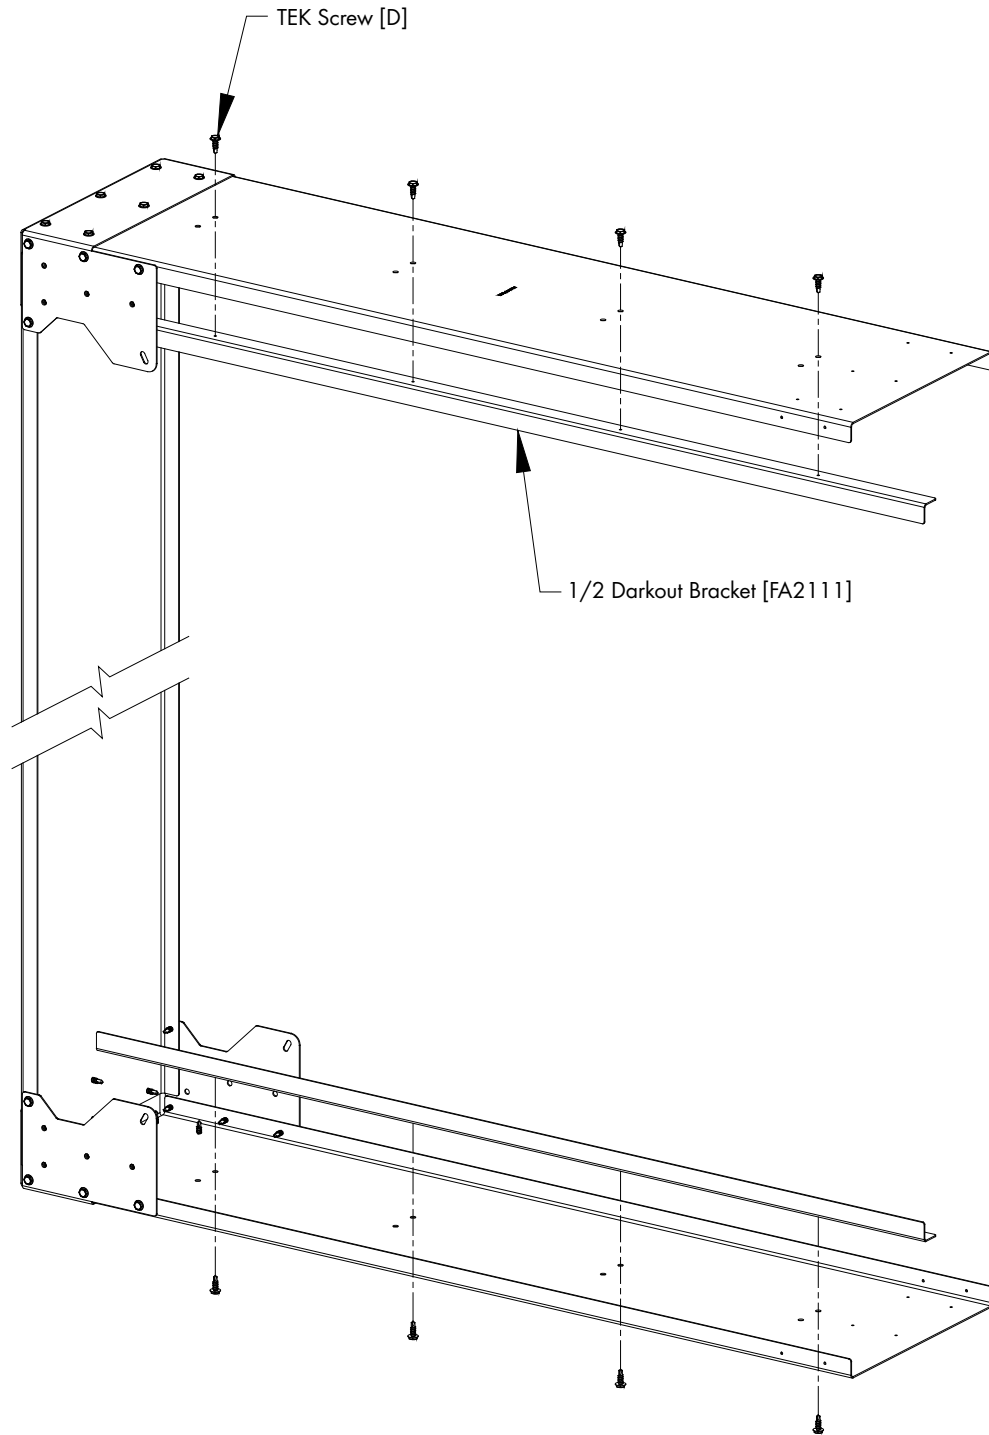

Figure 8
If you will be installing Full Depth Light Trap into the door then proceed to Step 9. If installing Half Depth Light Trap, proceed with this step. Attach a 48" L. 1/2 Darkout Bracket [FA2111] to the Top and Bottom Door Panels using (4) TEK Screws [D] per bracket. See Figure 8. The flat edge of the baracknet should be facing the inlet side of the door.